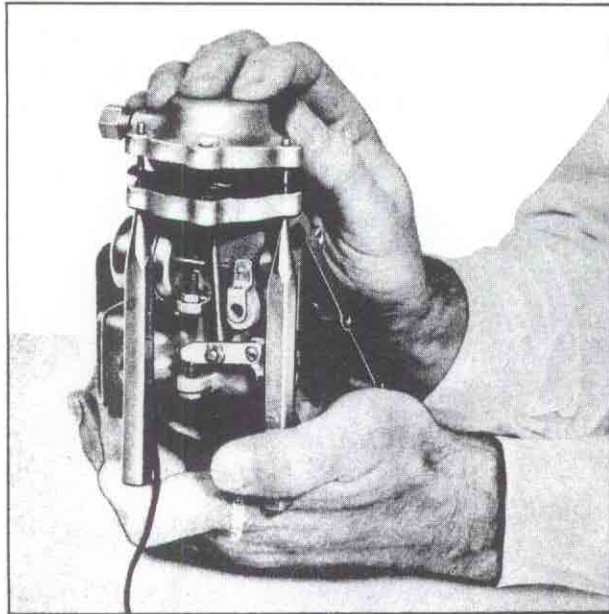

Figure 45
12. Install enrichment diaphragm spring and diaphragm cover with five attaching screws. Tighten gradually to insure a flat, undistorted diaphragm. If desired the diaphragm and housing can be aligned with two guide pins (fig. 45), which will fit freely through the